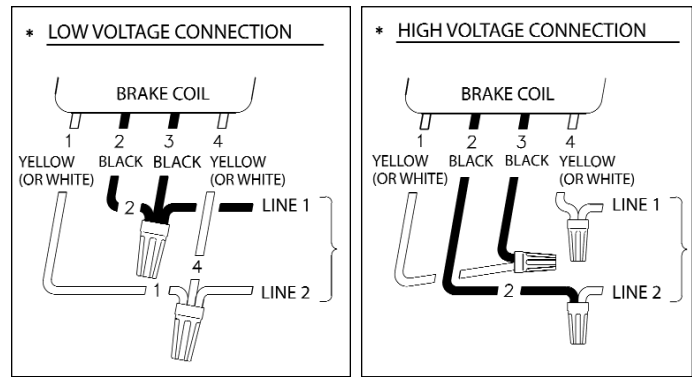

Figure 3. Wiring Diagram
1. Install 3/16" square key (31) in motor shaft keyway.
2. Install brake hub (30) onto motor shaft. Tighten two hub (30) set screws to 94 lb-in. of torque or until long arm of allen wrench flexes.
3. Remove cover nuts (19) and cover (29).
4. Install brake assembly over brake hub (30).
6. Connect coil (21) wire leads as indicated in Figure 3.
7. Reattach cover (29) and secure by fastening cover nuts (19).
Remove cover nuts (19), cover (29), nuts (19) and magnet assembly (21). Replace magnet assembly. Be sure rubber pads (20) are under magnet bracket. Tighten nuts (19) to remove end play between nut and magnet bracket. Tighten with an additional 1/3 turn (two flats on nut). Check air gap as described under WEAR ADJUSTMENT. Electrically reconnect the coil (See Figure 3). Reassemble cover and cover nuts.